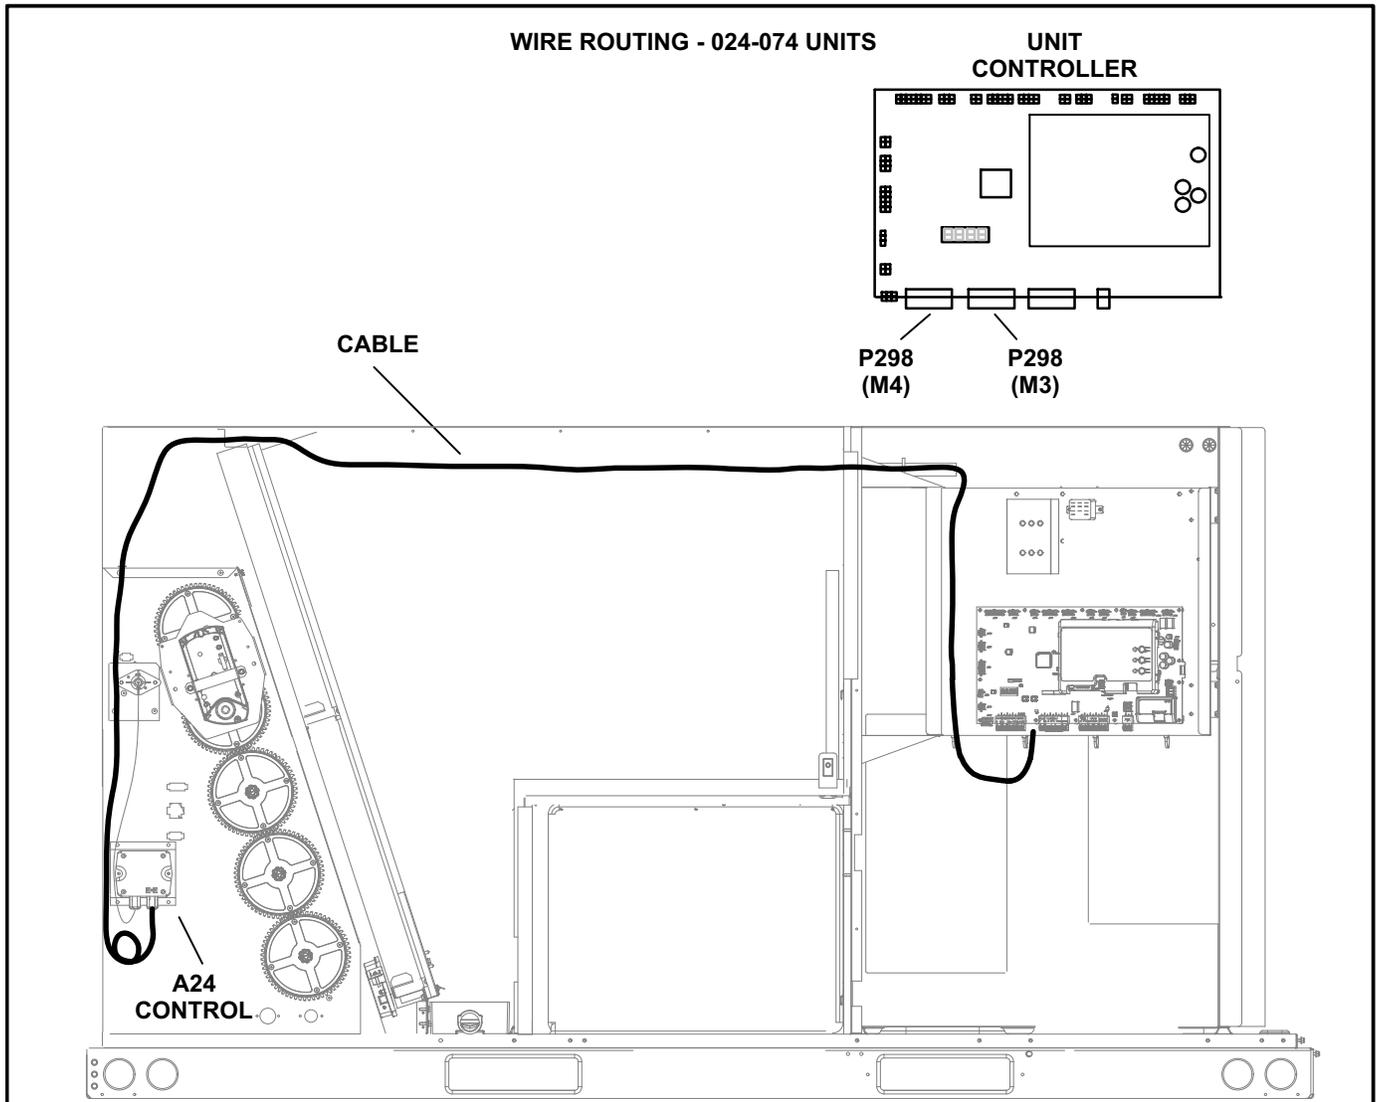
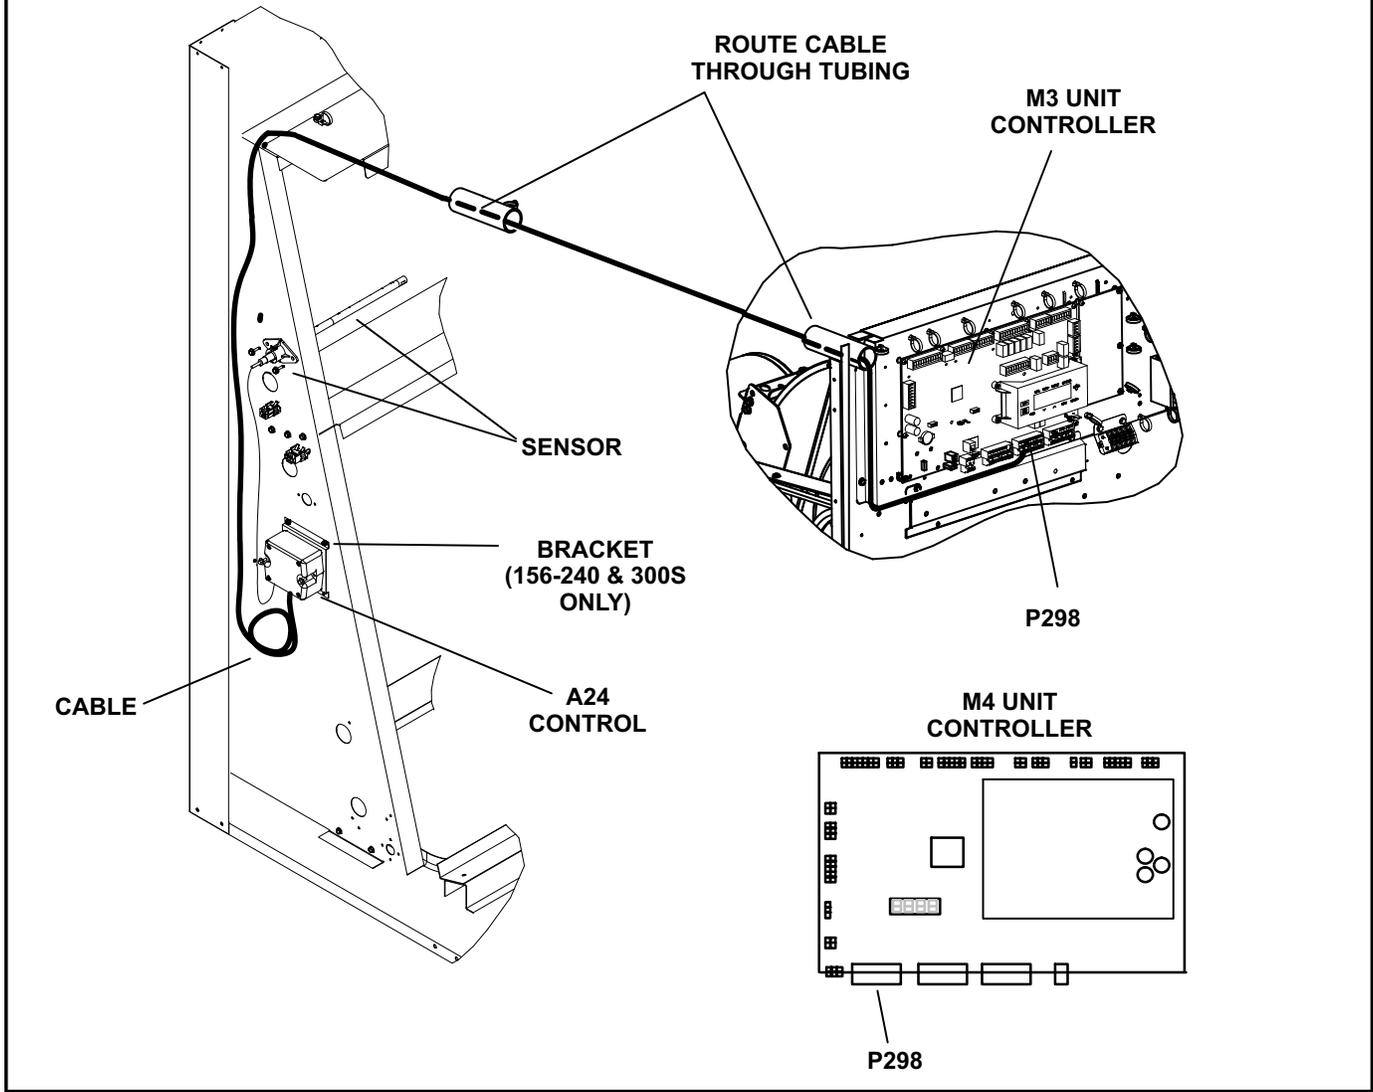

FIGURE 11
FIGURE 13
Secure the A24 control onto the bracket and secure with two 1" screws provided in kit. Install the bracket assembly into the unit and secure with 5/8" self drilling screws. On 072-074 units if needed, remove the corner mullion to provide clearance for tools. See figure 11 for 078-150 units and figure 13 for 156-240 & 300S units.
Install the A24 control into the unit and secure with 1" sheet metal screws. See figure 13. The bracket and 5/8" self drilling screws are not used.
-Figure 11 for 024-074 units
-Figure 13 for 156-360 units.